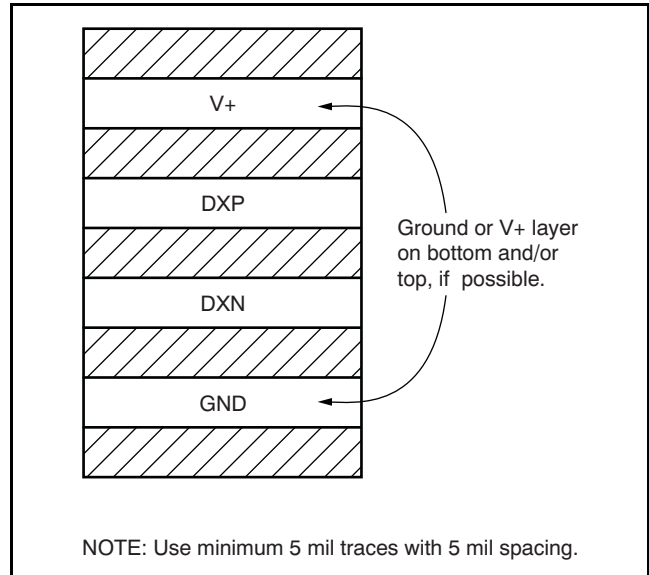

Figure 19. Suggested PCB Layer Cross-Section
2. Route the DXP and DXN traces next to each other and shield them from adjacent signals through the use of ground guard traces, as shown in Figure 19. If a multilayer PCB is used, bury these traces between ground or  $V_{DD}$  planes to shield them from extrinsic noise sources. 5 mil (0.005 in, or 0,127 mm) PCB traces are recommended.